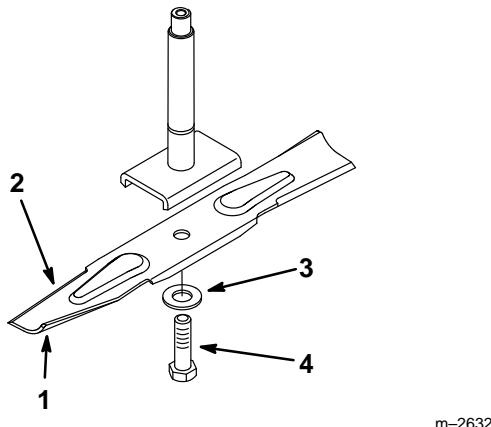
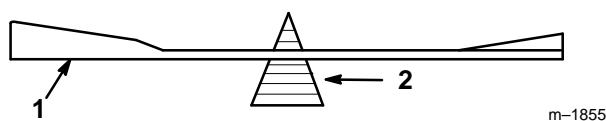

Figure 14
Figure 16
Hold the blade end using a rag or thickly-padded glove. Remove the blade bolt, lock washer and blade from the spindle shaft (Fig. 14).
2. Check the balance of the blade by putting it on a blade balancer (Fig. 16). If the blade stays in a horizontal position, the blade is balanced and can be used. If the blade is not balanced, file some metal off the end of the sail area only (Fig. 14). Repeat this procedure until the blade is balanced.
1. Install the blade onto the spindle shaft (Fig. 14).
2. Install the lock washer and blade bolt (Fig. 14). Torque the blade bolt to 85–110 ft-lb (115–140 N•m).